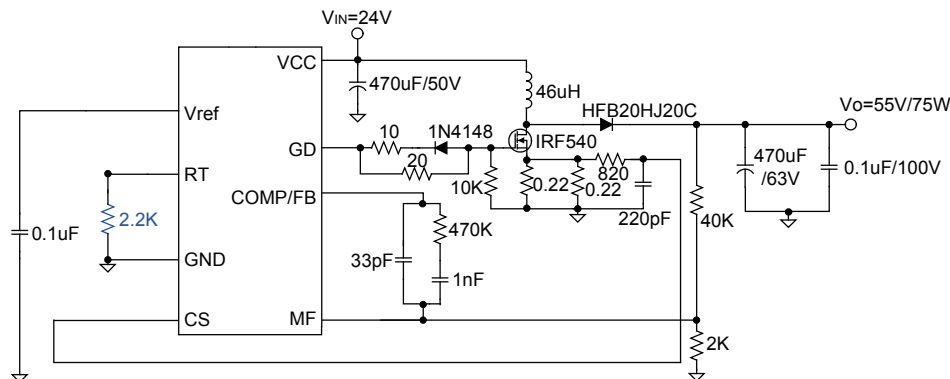

Figure 8 Constant Voltage Boost Application (DC-DC Boost)
A Constant Voltage (CV) Boost application circuit is shown in Figure 8. This circuit can be used with DC inputs of 16~24V and provides a DC output of $55V \pm 5\%$ with an output power level of 60~70W. The output power level can be changed by choosing a suitable inductor value and power MOSFET, while the output voltage can be changed by choosing a suitable feedback resistor ratio.